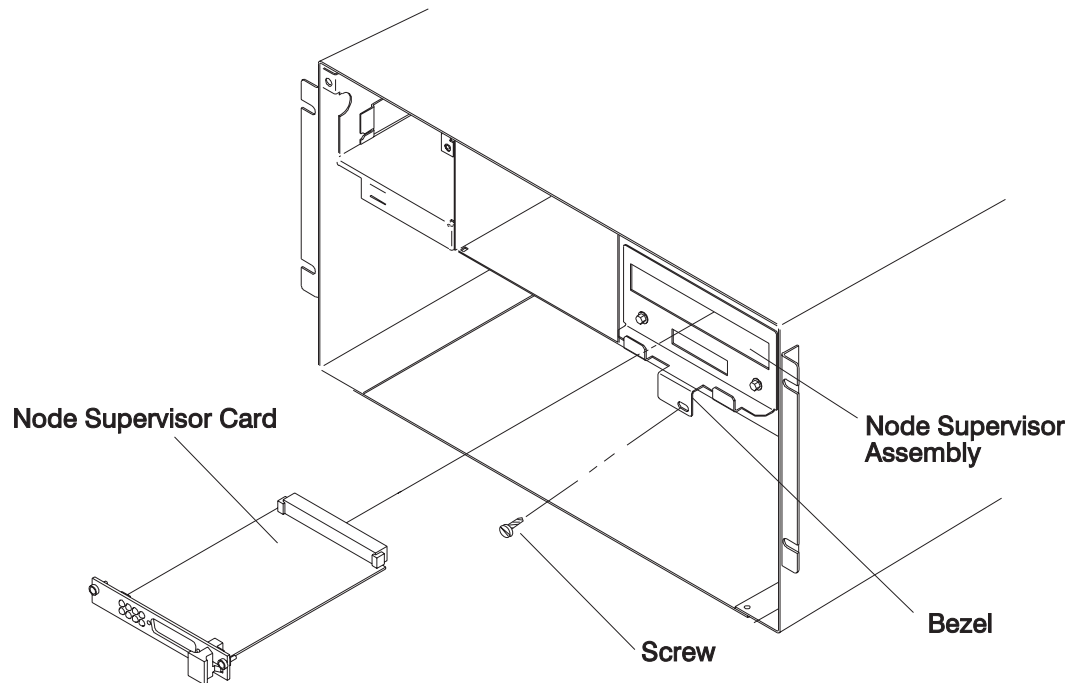

Figure 4-49. Removing the 604 or 604e High Node supervisor card
6. Remove the screw from the front of the supervisor assembly bezel (see Figure 4-49 on page 4-45).